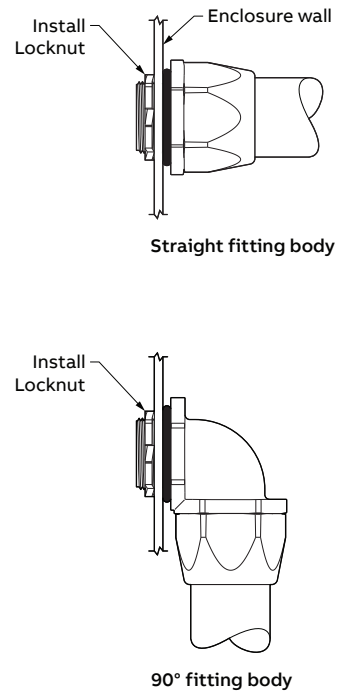

Figure 6
6. Hand-tighten locknut against enclosure wall. Add an extra $\frac{1}{4}$ turn using appropriate tools to firmly secure to enclosure wall, see Figure 6. **DO NOT OVER TIGHTEN.**